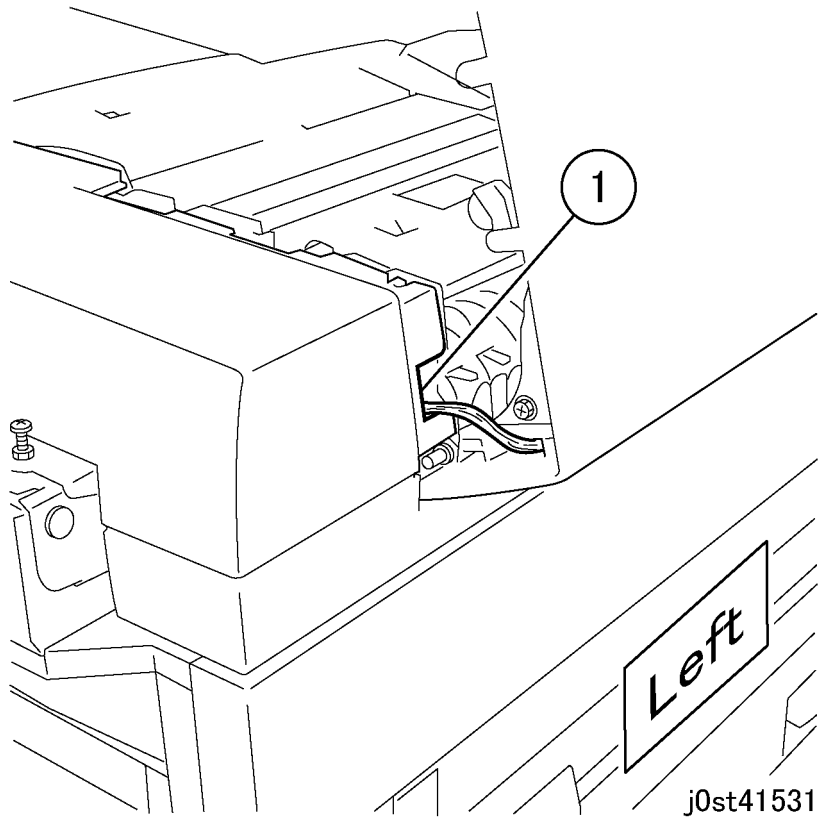

Figure 2 Installing the DADF Rear Cover (j0st41531)
1. Pull the harness to the notch of the DADF Rear Cover when installing the DADF Rear Cover. (Figure 2)